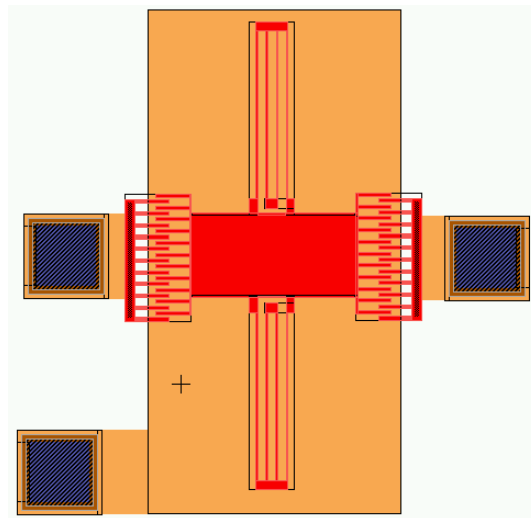

Figure 18: Final view of the lateral resonator
- ☑ Home the view, then move the ground plate so that it covers all the moving parts of the resonator (refer to Figure 18).